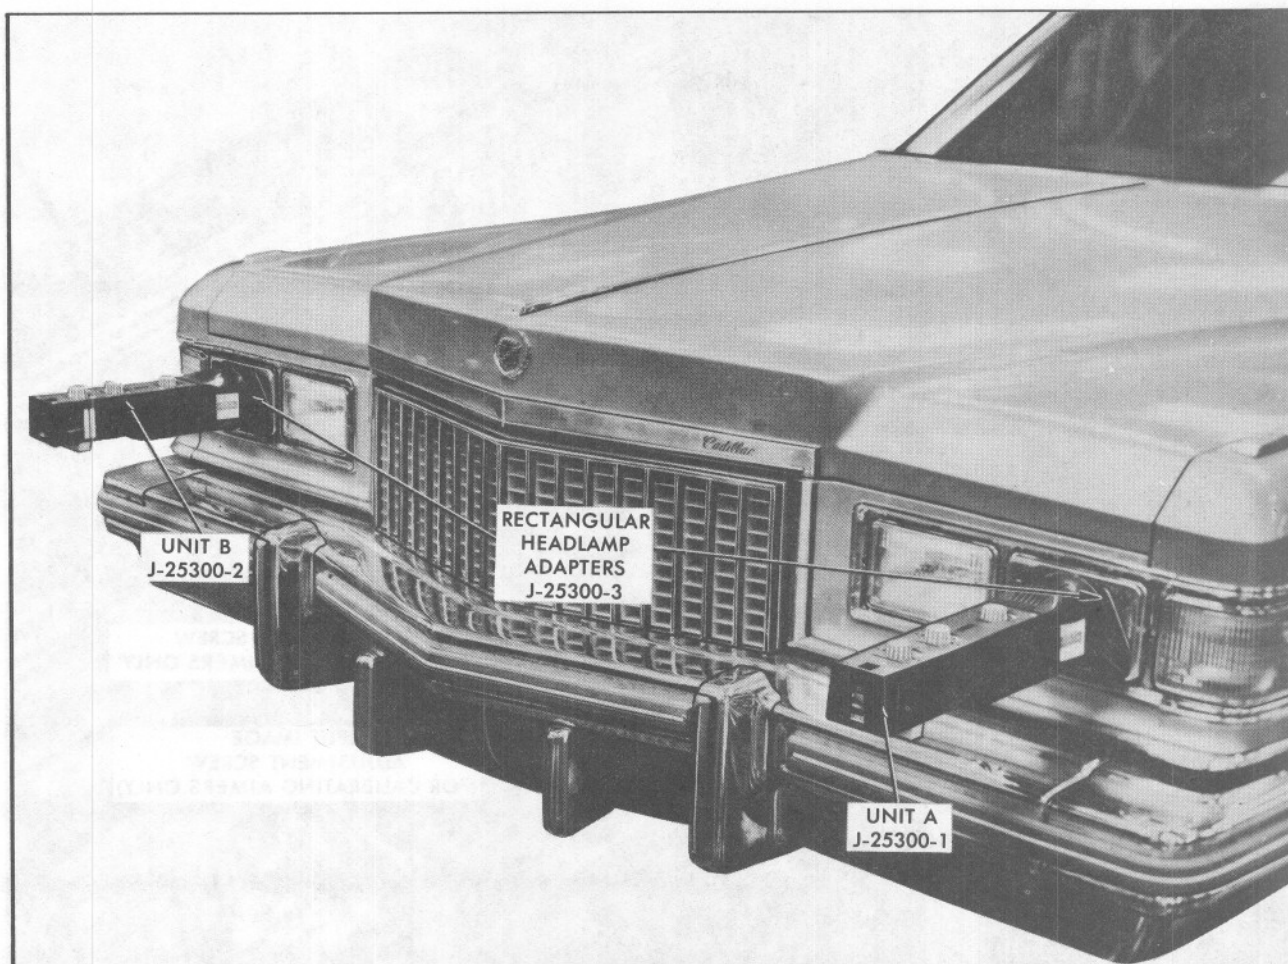

Fig. 12-4 Aiming Headlamps
6. Attach aimer J-25300-2 onto passenger outer lamp making certain that the three guide points on the lamp contact the three steel inserts inside the adapter. Push piston handle forward until vacuum cup tightly engages lens and then rapidly pull back piston handle until it locks in place. Attach aimer J-25300-1 to driver outer lamp, Fig. 12-4.
7. Set horizontal and vertical dials to zero. Rotate each aimer as necessary to locate split image target lines, Fig. 12-4.